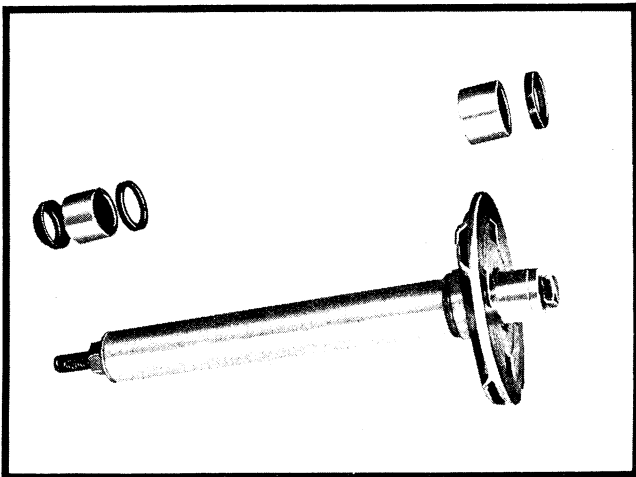

Figure 137
- 4) Using the special bearing inserter tool, press a single lip seal (with the seal lip up) and a new bearing into the top of the center post, also a new bearing into the bottom of the center post See *Figure 137*.